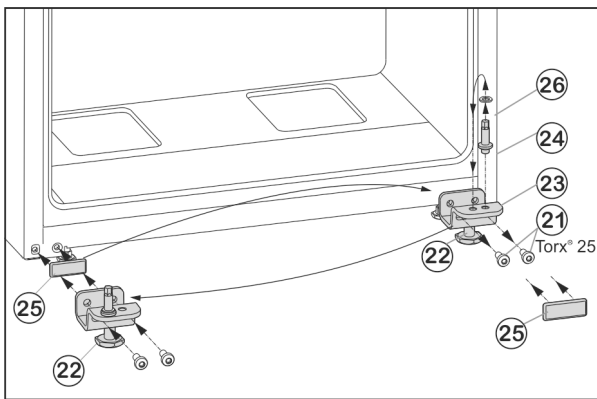

Fig. 9
- ▶ Unscrew fastening screws *Fig. 9 (21)*.
- ▶ Remove the lower bearing block *Fig. 9 (23)*, complete with bearing bolt *Fig. 9 (24)*, washer *Fig. 9 (26)* and adjustable foot *Fig. 9 (22)*.
- ▶ Unscrew the bearing bolt *Fig. 9 (24)*, complete with washer *Fig. 9 (26)*, re-locate it into the mounting hole on the opposite side of the bearing block and tighten again.
- ▶ Carefully remove the cover plate *Fig. 9 (25)* and re-locate it to the other side.
- ▶ Screw on the lower bearing block *Fig. 9 (23)*, complete with bearing bolt *Fig. 9 (24)*, washer *Fig. 9 (26)* and adjustable foot *Fig. 9 (22)* to the new hinge side, with the help of a cordless screwdriver if necessary, and **tighten (with 4 Nm)** once again.
- ▶ Lower the door from above onto the bearing bolt *Fig. 9 (24)*.
- ▶ Unscrew the adjustable foot *Fig. 9 (22)* on the lower bearing block *Fig. 9 (23)* until it touches the floor.